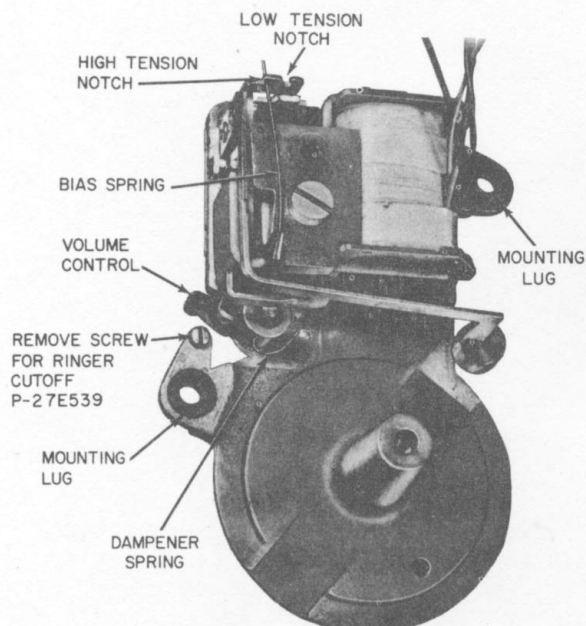

Fig. 6—M2B Ringer, Gong and Resonator Removed
2.07 The dampener spring shown in Fig. 6 is used in both M- and N-type ringers.
2.09 This ringer is intended for use in wall telephone sets. Access to the P-27E539 screw used for ringer cutoff is gained by removing the telephone set housing (Fig. 6 and 7).